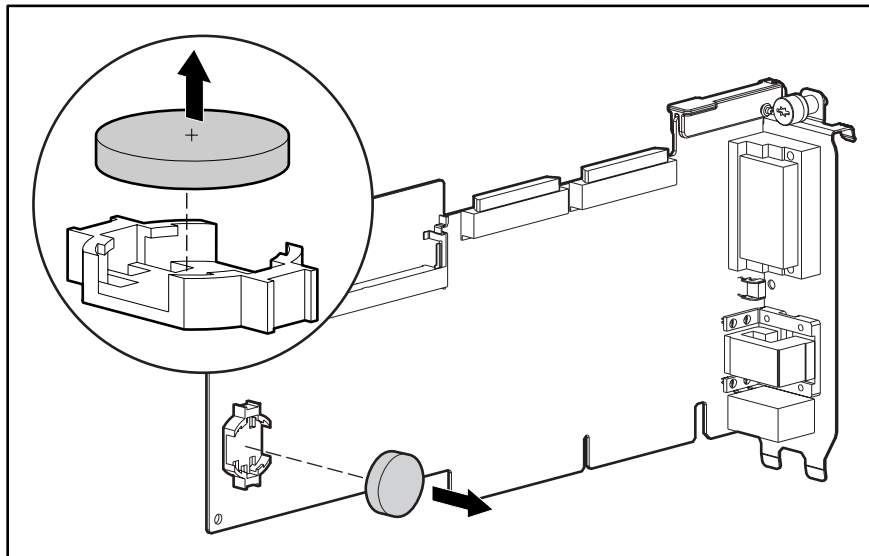

Figure 2-48. Removing the lithium battery from the peripheral board
4. Remove the lithium battery from the peripheral board as shown in Figure 2-48.